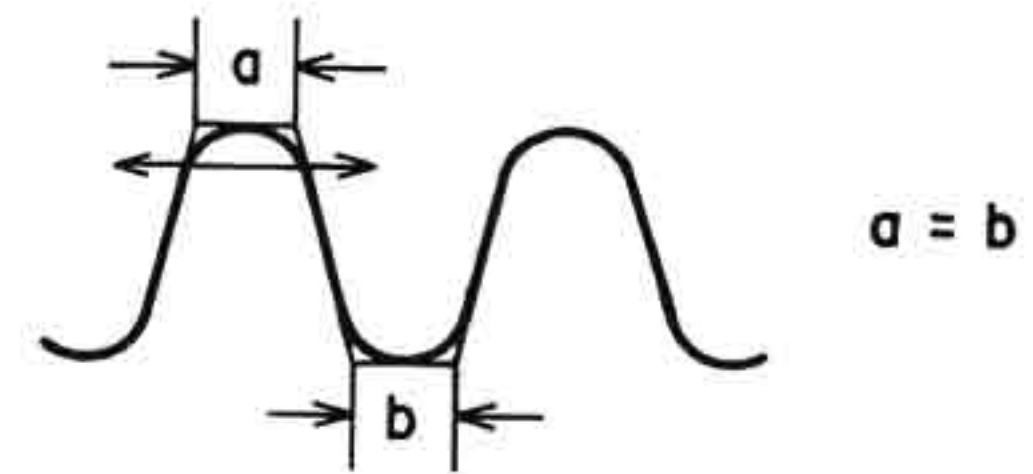

Fig. 6-4 TP1, 2 Waveform
- 4) Next, connect an oscilloscope to TP2 and adjust VR2 in the same manner as item 3).
- (GND) on AUDIO P.C BOARD, and observe the wave form while the Tone Arm is moving FWD or BWD above the record and adjust VR3 so that the duty of the waveform is 50% as shown in Fig. 6-4.